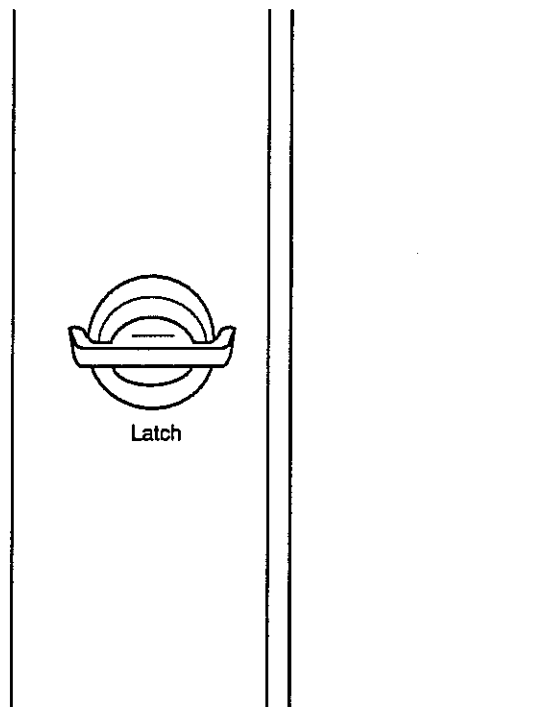

Figure 7-8. Side Panel Latch
1. Turn the latch (Figure 7-8) counterclockwise one half turn to unlatch it and swing the panel open.
2. Push the panel to close it, and turn the latch clockwise until it locks. Refer to Figure 7-8.